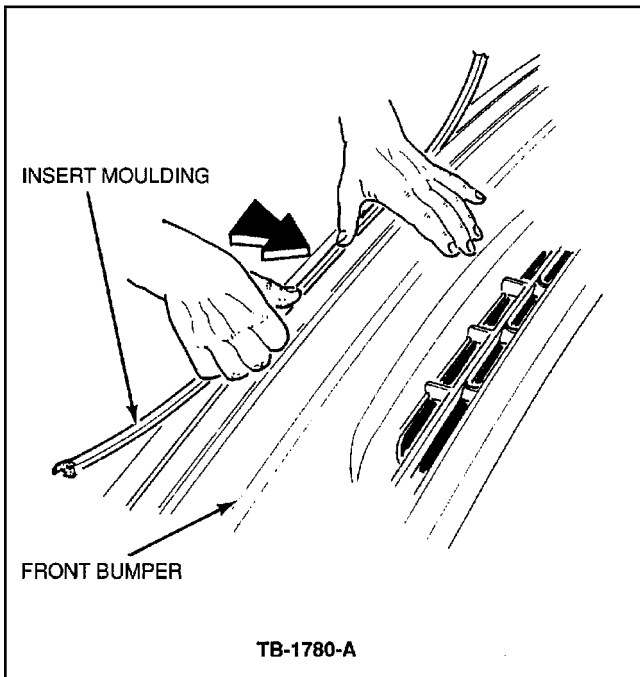

Figure 7 - Article 90-22-4
3. Route the insert to the bumper ends, engaging the retaining tabs into the apertures, Figure 7.